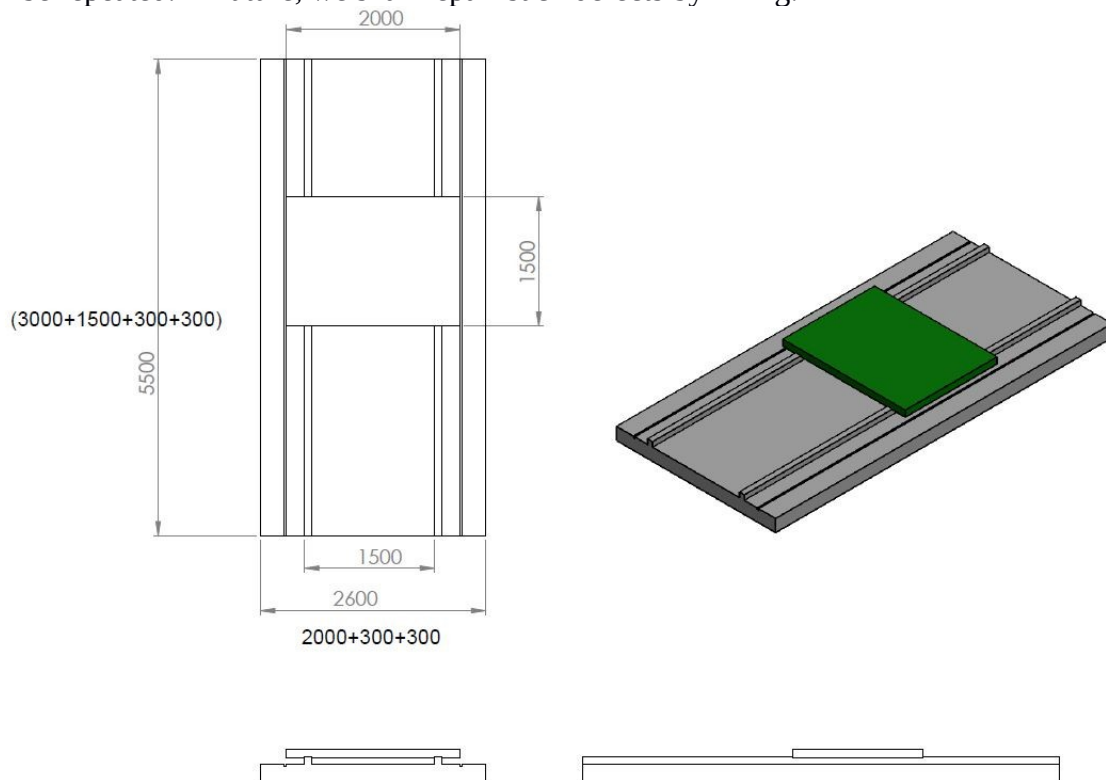

Figure 3: Base Structure with 5-axis motion unit
a. Base Structure with X-axis (see Figure 3)